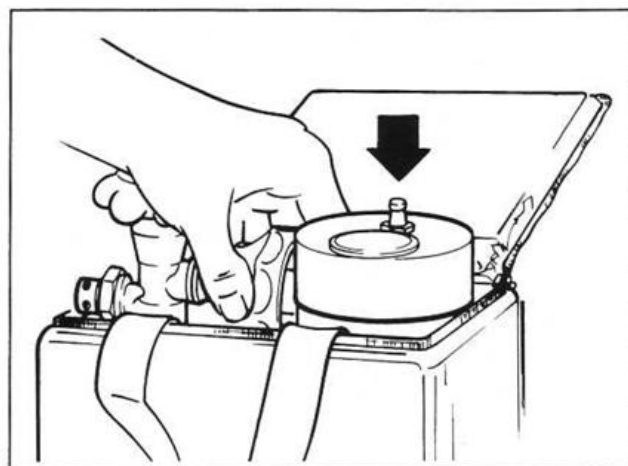

Figure 5. Reinstalling Assembly in the Case.
7. Install the cylinder / mixer assembly in its case as shown in Figure 5. Make sure that the mixture pressure gauge is visible. The apparatus is now ready for use.